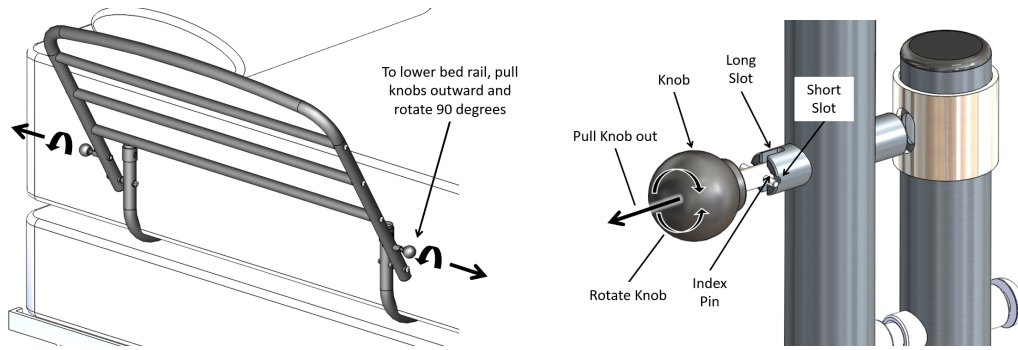

FIGURE 5
5. To lower bed rail, pull and rotate Knobs 90 degrees until Index Pin engages the Short Slot, as show below in Figure 5.